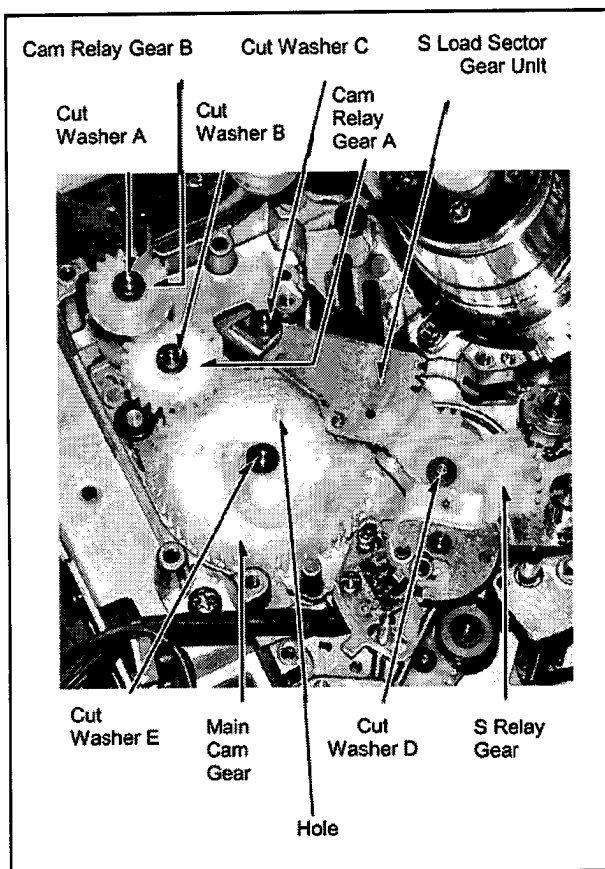

Fig.4-11
3. Turn the Cam Relay Gear B counterclockwise to place the mech. in the loading complete mode. (Fig.4-11)
7. Remove the Cut Washer A and the Cam Relay Gear B. (Fig.4-11)